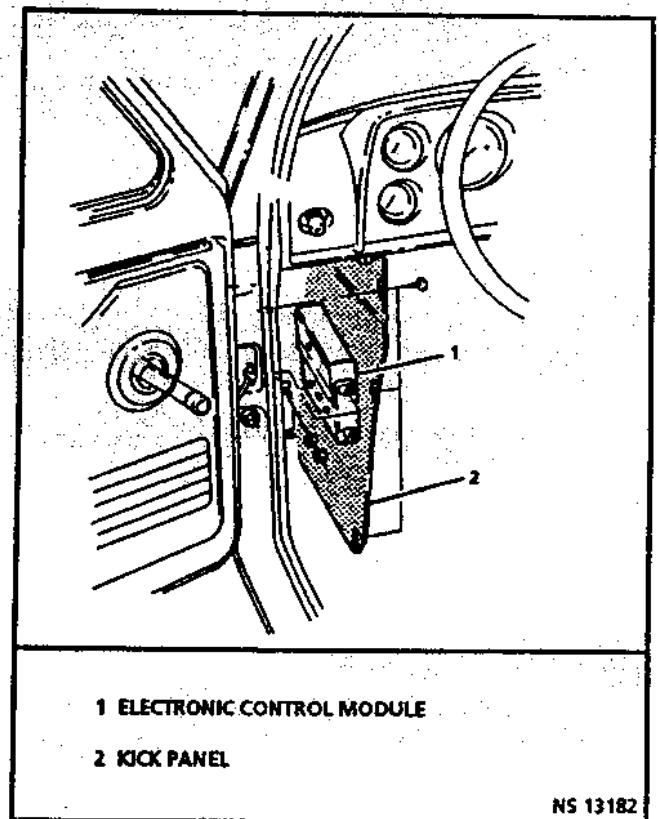

Figure 3.1-2 Electronic Control Module Location View
3. Electronic control module from bracket and connectors. (See Figure 3.1-2.)